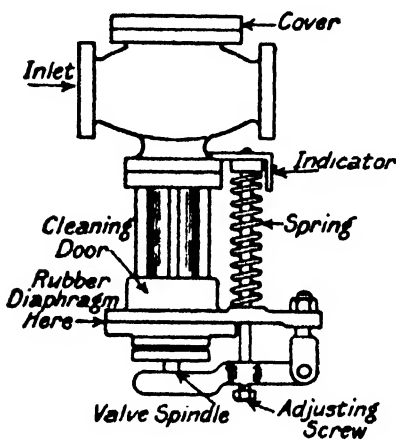

FIG. 114.
**The Reducing Valve.**—When it is desired to bring down the boiler pressure to a suitable working limit for service pipes, reducing valves are inserted in the pipe lines. The majority of these valves are of the spring loaded type, as shown in the diagram Fig. 114, but there are other designs, a few of which are of the loaded lever pattern. Briefly the reduction is effected as follows:—The full pressure of steam is admitted to the valve chamber and attempts to lift the valve from its seat, but in opposition to this attempt the steam pressure